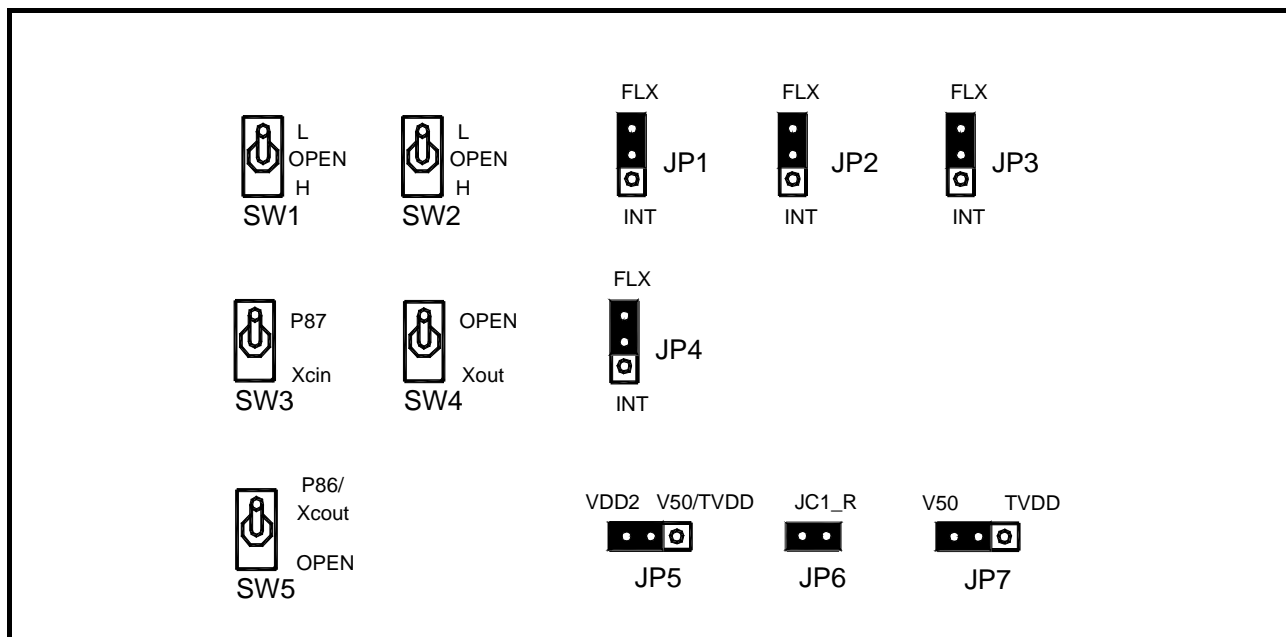

Figure 2.8 Switch settings for the self-check (factory-settings)
- (1) If the user system is connected, disconnect it.
- (2) Set the switches in the emulation pod to the factory settings as shown in Figure 2.8.
- (3) Within 2 seconds of activating power to the emulator, press the system reset switch on the emulator front panel to switch the emulator to maintenance mode.
- (4) Check the SAFE LED starts blinking and then press the system reset switch again.
- (5) The self-check will start. If the normal result is displayed in about 30 seconds, the self-check has terminated normally.